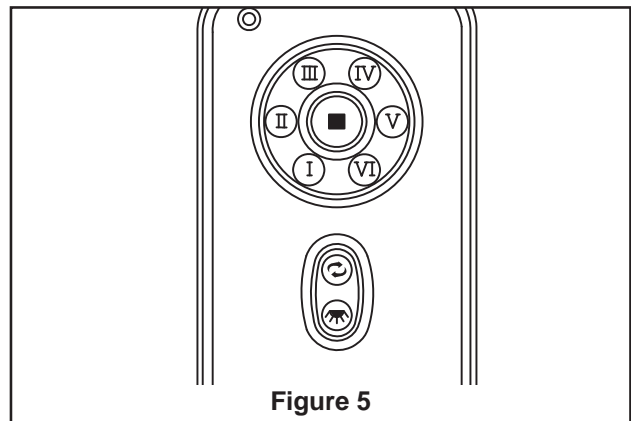

Figure 5
5. Assemble the LED assembly to the light plate assembly using the screws removed in Step 3 and securely tighten all two screws. (Figure 5)
7. Functions of your remote buttons: (Figure 5)